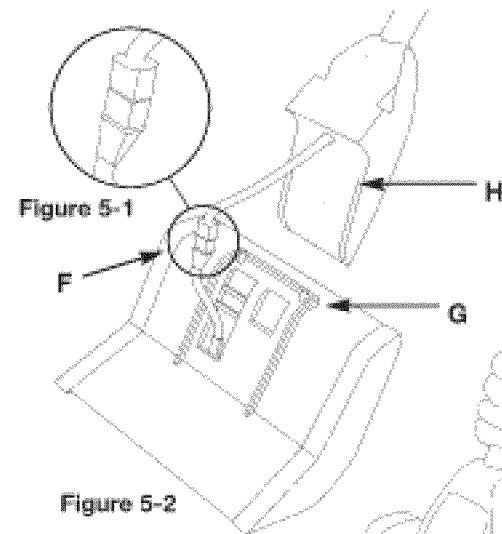

Figure 5-2
1. Position the power base (G) beneath the handle support: (H) as shown in figure 5-2.